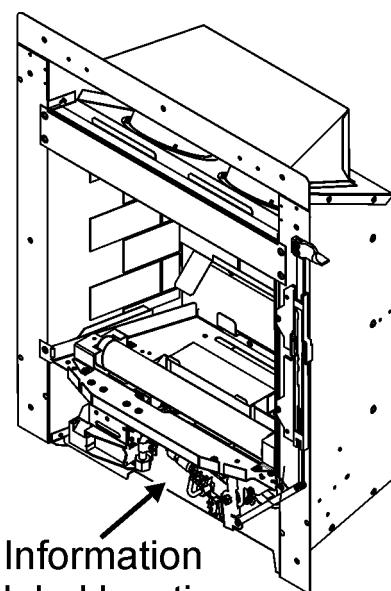

Figure 4. Information label location.
1. Fire serial number and fascia code (Located on the information label - See figure 4 on page 47).
Serial number (Can be found on information label - See figure 4)